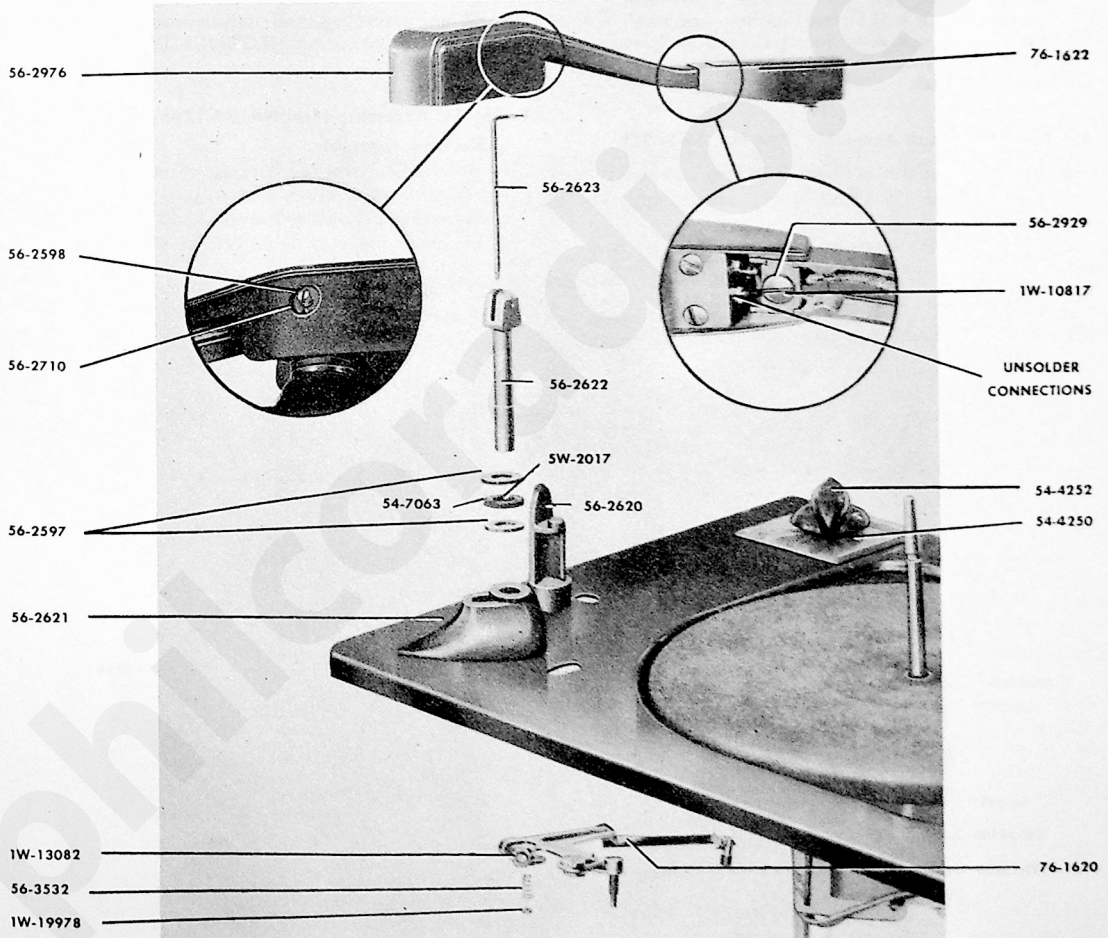

Figure 22—TONE-ARM-SHAFT AND TRIP-ARM ASSEMBLIES, EXPLODED VIEW.
- Loosen locknut 56-2710 and bearing screw 56-2598. See figure 22.
- Remove screw 1W-10817 and clamp plate 56-2929, figure 22.
- Loosen screw 1W-13082 in trip-arm assembly 76-1620, figure 22.
- Withdraw the tone-arm-shaft assembly. Be careful not to lose the three balls 5W-2017 shown in figure 22.
- b. Lift off knob 54-4252, figure 22.